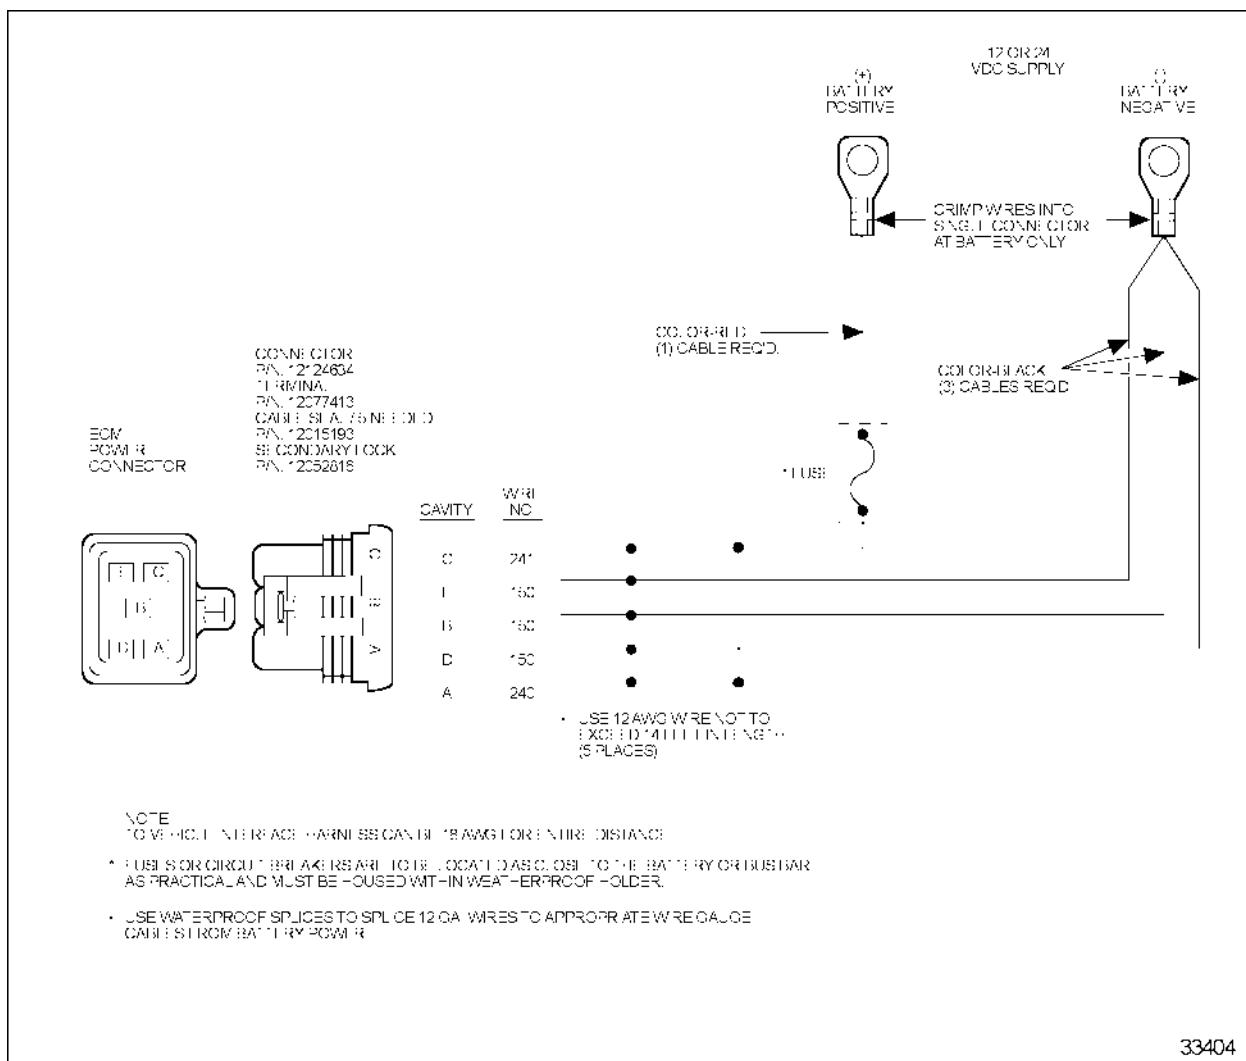
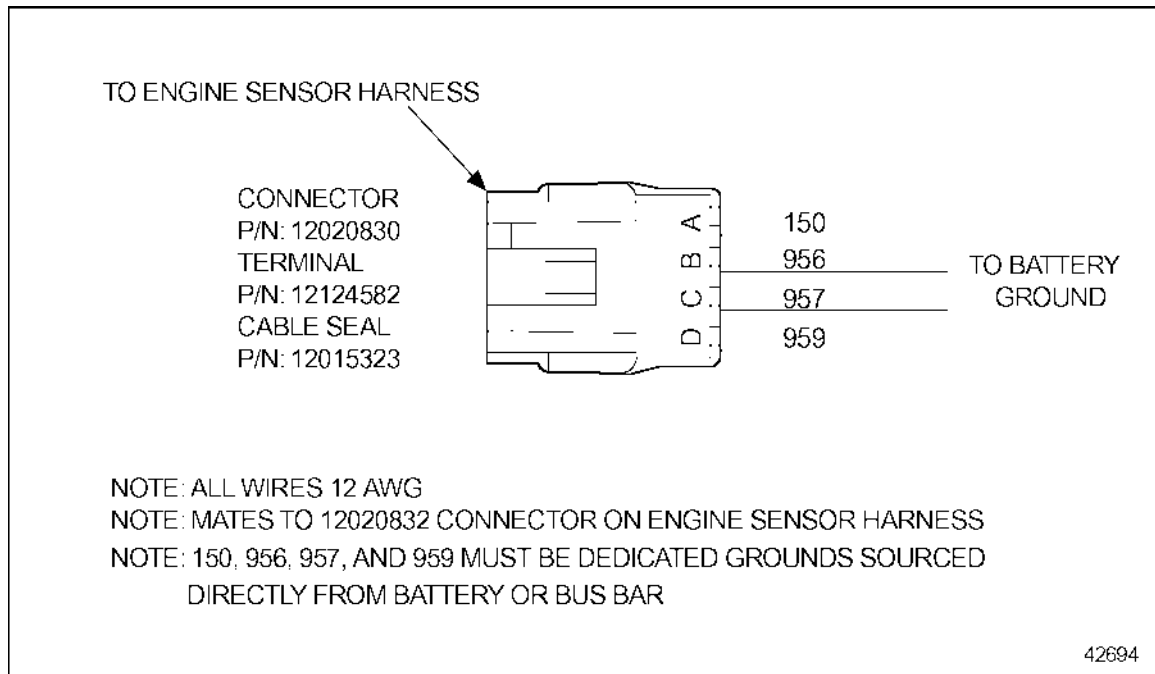
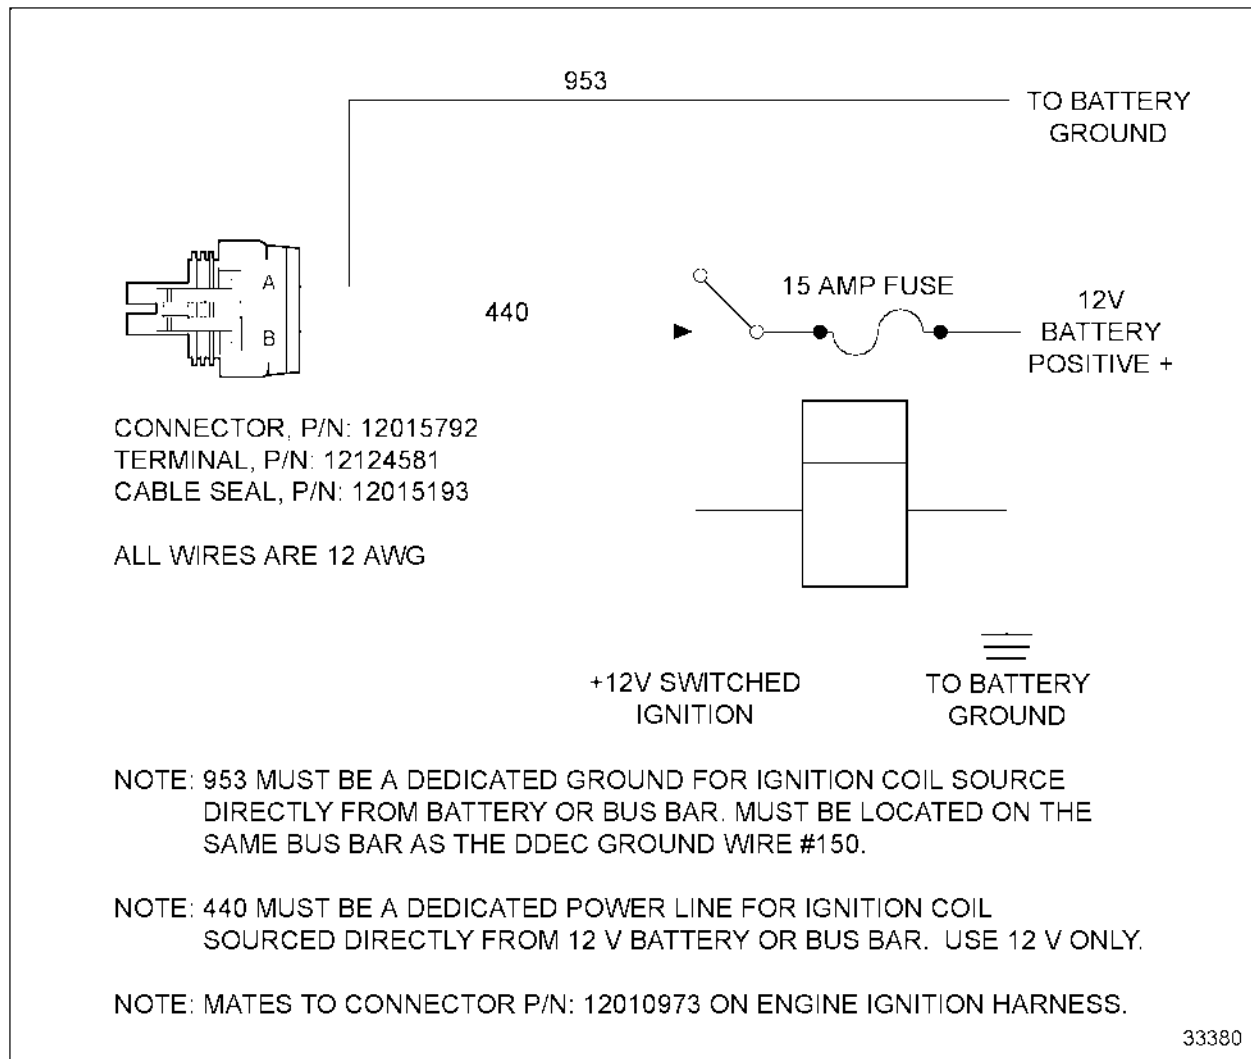

Figure 3-9 Power Wiring
Figure 3-12 OEM Sensor Ground Harness
Figure 3-13 Coil Power Harness
- ☐ Ground wires #150, 956, 957, and 959 from the OEM Sensor Ground Harness (see Figure 3-12) ground wire #953 from the Coil Power Harness (see Figure 3-13) and the three DDEC ECM main power ground wires #150 (see Figure 3-9) must go to a common negative battery terminal. Use an individual 12 AWG wire (do not exceed 28 ft in length) for each of the seven ground wires to the battery. If a ground stud or bar is used before going to the battery, do not source any other grounds from that ground stud or bar. Use an individual 12 AWG wire (do not exceed 28 ft in length) for each of the seven ground wires to the ground stud or bar. A 2/0 AWG or larger cable must be used to connect the ground stud or bar directly to a negative battery terminal. Do not source any other grounds from this cable.
Provides ground to the PSV, throttle and Oxygen Sensor Interface Module. This harness connects to a pigtail on the Engine Sensor Harness. See Figure 3-12.
This harness provides power to the engine ignition coils (see Figure 3-13).